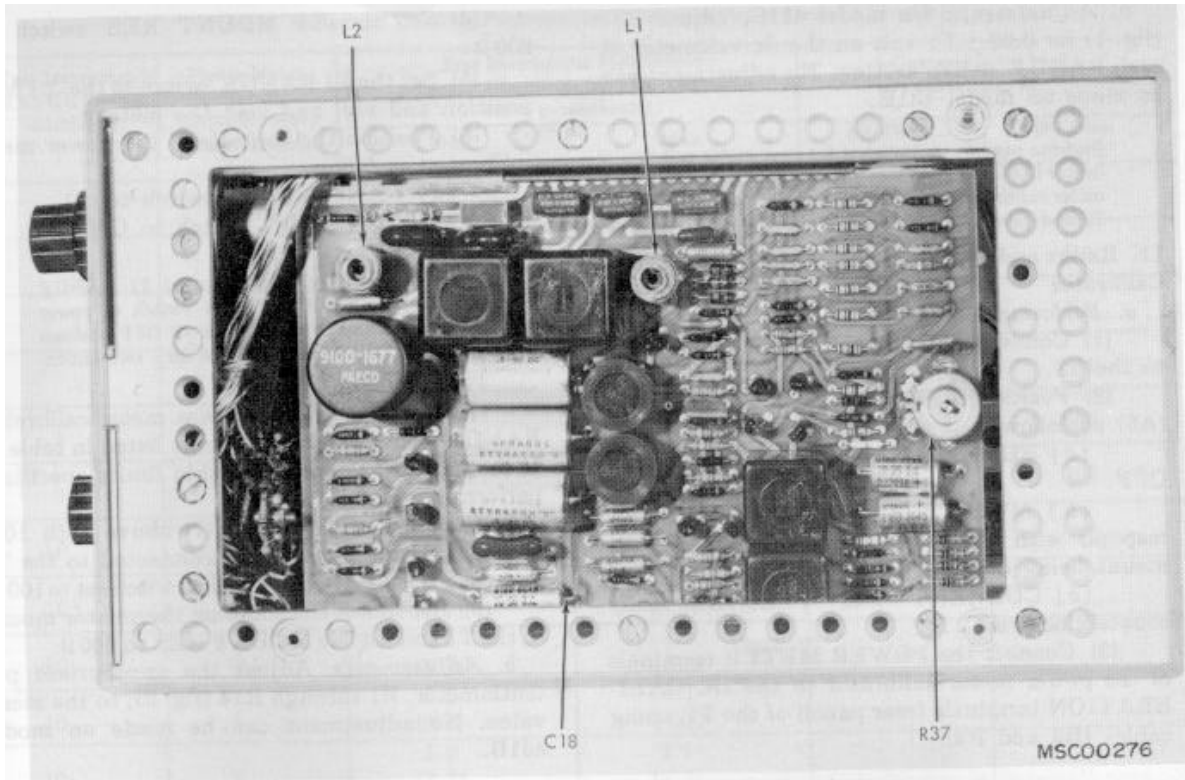
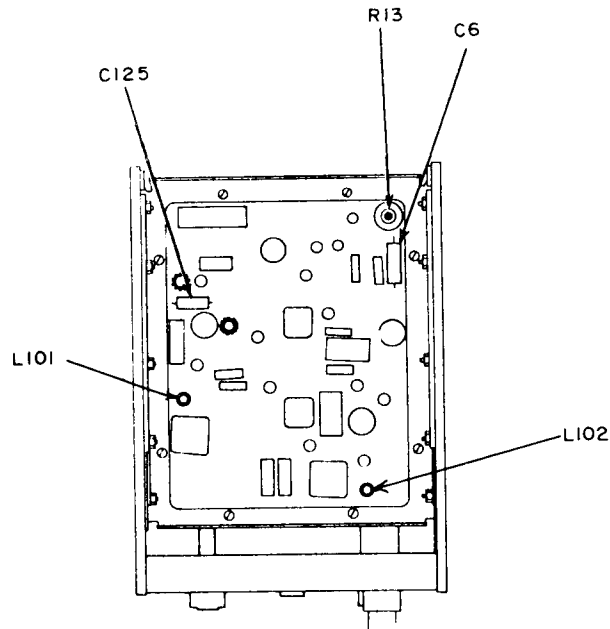
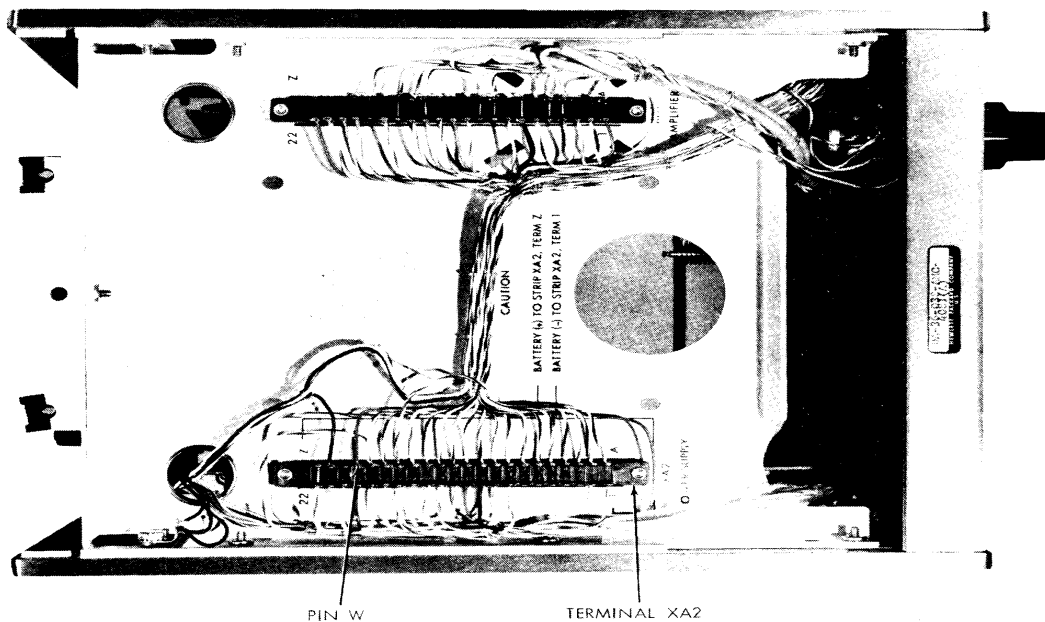

Figure 1. Right interior view - model 431C..
Figure 2. Top interior view - model 431B.
Figure 5. Top internal view-model 431C.
- (6) Connect 100-ohm thermistor mount (A8) to the TI.
- (7) Set the TI MOUNT RES switch to 100.
- (8) Repeat (2) through (5) above.
b. Adjustments. On model 431C, adjust L1 (fig. 1)(L102, fig. 2 on model 431B) for null on the TI.
(1) On model 431C, connect dc voltmeter (A3) to the TI DVM output (rear panel) using adapter (B1) and if necessary cables (B3) and (B4).
(2) On model 431B, connect resistance decade (A6)(set at 1000 ohms) to the TI RECORDER output, using adapter (B2) and cables (B3 and B4). Connect the dc voltmeter to the same terminals of the resistance decade, using cables (B3 and B4) if necessary.
(3) Position the TI RANGE switch to the .01 MW position and adjust the zero controls for 0.00 volt dc on the dc voltmeter.
(4) Turn the TI RANGE switch to .03-, .1-, .3-, 1-, 3-, and 10-MW positions while observing dc voltmeter. If the dc voltmeter does not indicate between -0.01 and +0.01 volt in each position of the RANGE switch, perform **b** below.
b. Adjustments. On model 431C, adjust R37 (fig. 1) for $0.00 \pm .01$ volt on the dc voltmeter at each RANGE switch setting. No adjustment can be made on model 431B.
(1) On model 431C, connect frequency counter (A4) to the positive end of C18 (fig. 1) and ground, using cable (B4). On model 431B, connect the counter to the positive end of C125 (fig. 2) and ground.
(2) Connect 200-ohm thermistor mount (A8) to the TI and terminate the mount with termination (B6).
(3) Set the TI MOUNT RES switch to 200Ω.
(4) If the frequency counter does not indicate between 9,990 and 10,010 Hz for model 431C, perform **b(1)** below. For model 431B, if the frequency counter does not indicate between 10,025 and 10,275 Hz, perform **b(2)** below.
- (1) Adjust L2 (fig. 1) on model 431C.
- (2) Adjust L101 (fig. 2) on model 431B.
- (1) Connect dc voltmeter (A3) to pin W of terminal board XA2 (fig. 5) and ground. For model 431B, connect the voltmeter to the negative end of C6 (fig. 2) and ground.